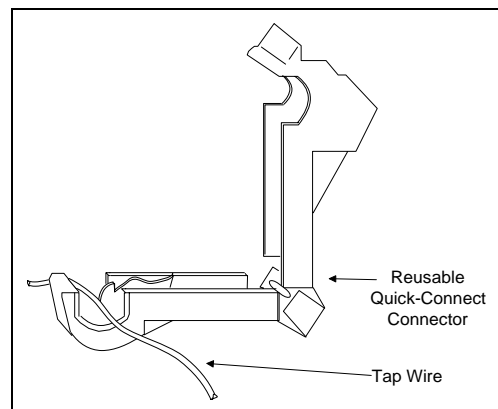

Figure 2. Attaching the Reuseable Quick-Connect Connector
3. Install the Quick-Connect connector on the wire. Use pliers to close the connector over the wire. The connector can be removed by prying it open with a screwdriver, and can be reused several times (See Figure 2).